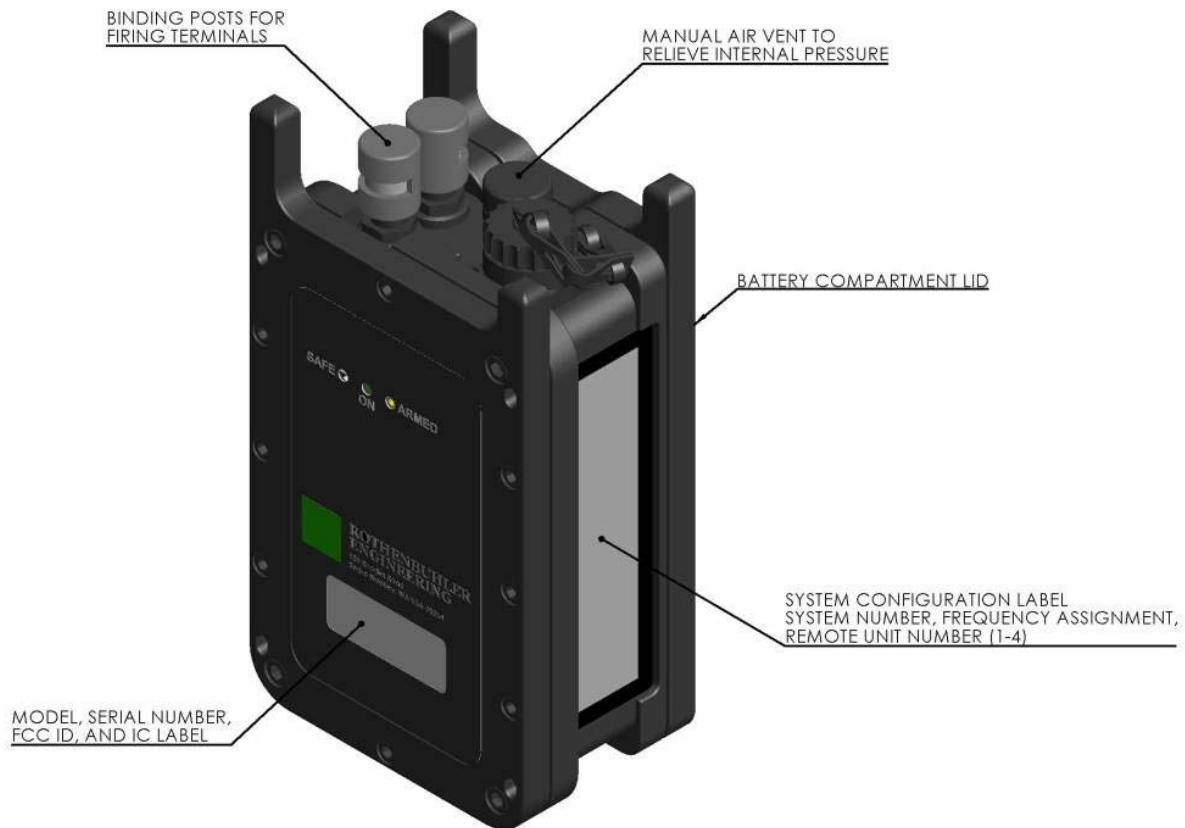

Figure 2-5 Electric Remote Unit Angled View
2.5.8. Figure 2-5 provides an angled view of the Electric Remote to show the System Configuration Label as well as the Battery Compartment Lid. Also illustrated are various hardware items such as the Binding Posts, Manual Air Vent, and the labels.